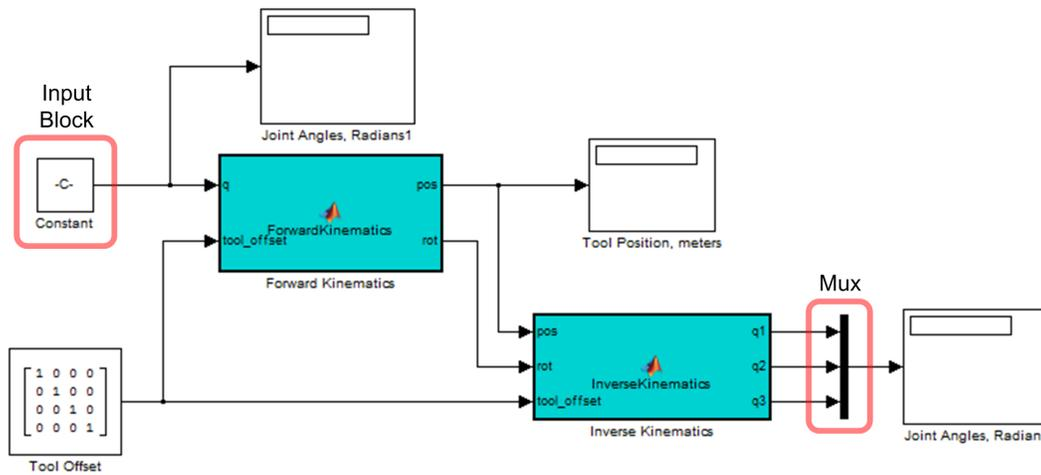

Figure 4.3: Inverse kinematics model
- Insert a **Constant** block and attach it to the input q of the forward kinematics block as shown in Figure 4.3.
- Attach displays as shown in Figure 4.3. The **Mux** indicated in Figure 4.3 is available in the **Simulink - Signal Routing** library. It converts its inputs into a vector. Double click on the **Mux** to change the number of inputs from two to three.
8. As an input to the forward kinematics block, input the joint angles as shown in Table 4.1 (one row at a time). Enter these values as a 1×3 vector in the **Input** block indicated in Figure 4.3.